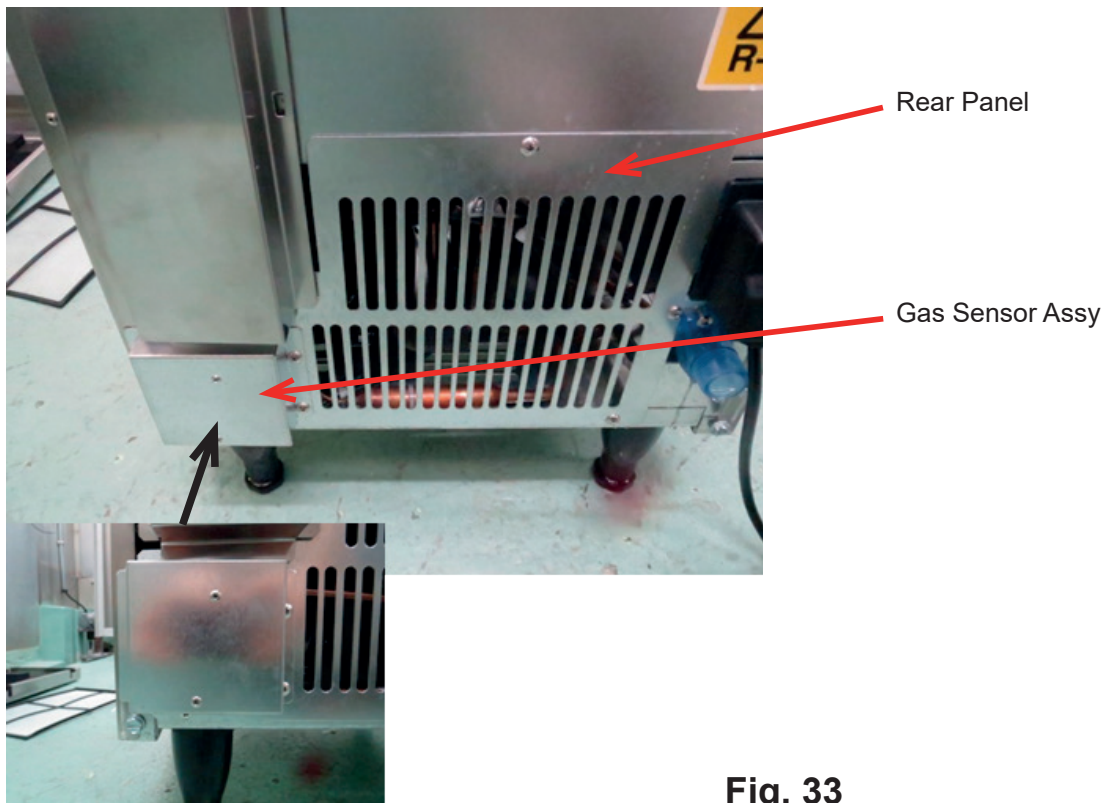

Fig. 33
16) Install the rear panel detached from the part A in the step 13) and the gas sensor assy as shown in Fig. 33.